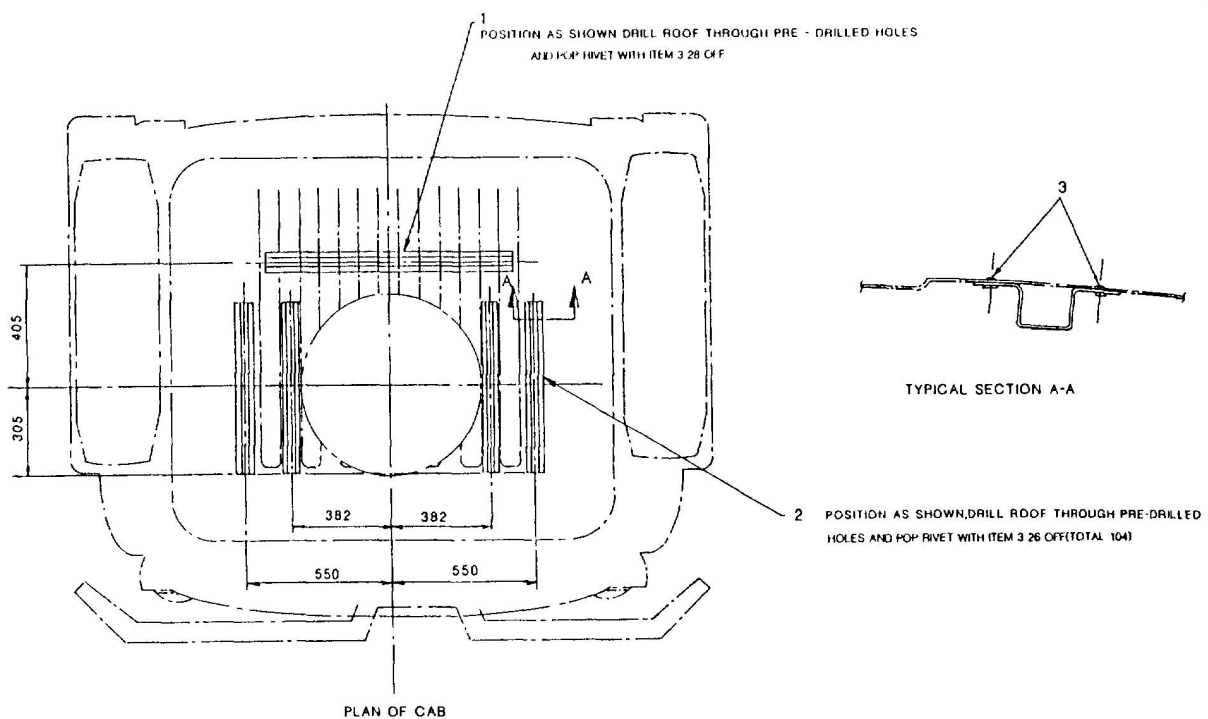

Fig 1 Cab reinforcement
9.2 Refer to Fig 1 and fit longitudinal and cross member reinforcements (items 1 and 2) and secure with sealed pop rivets as indicated.